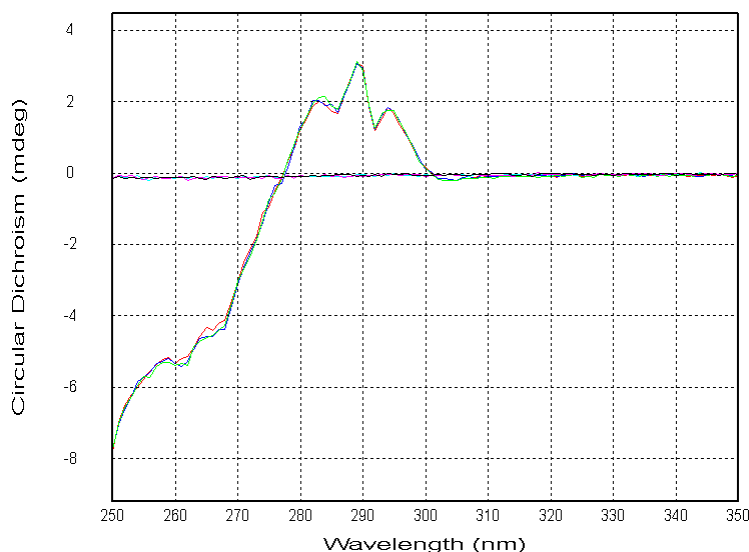

Figure 71: Data of two datastores (buffer and protein) displayed in the Graphical Display
- To add more Datastores to a Graphical Display, select multiple Datastores from the list in the usual way (using the left mouse button with Ctrl or Shift keys) and drag them onto the Graphical Display (Figure 71).